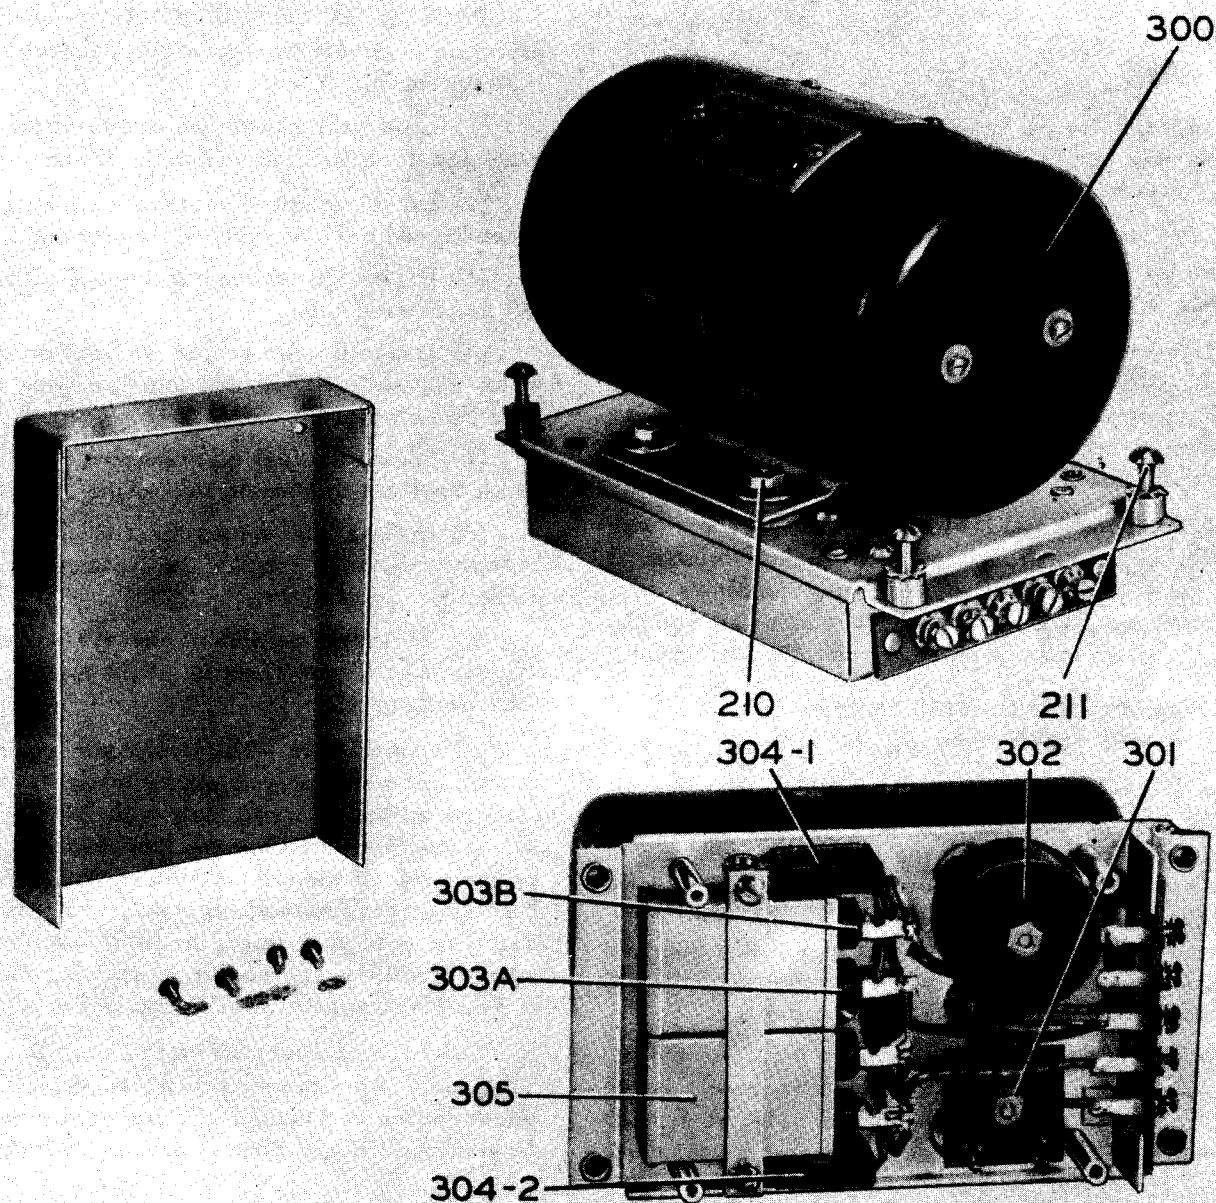

Figure 13 — Dynamotor DM-28(\*) or DM-24(\*), View Showing Filter Open
(1) Loosen the two thumb screws on the receiver panel and draw the chassis from the cabinet.
(2) Lay the chassis with top upwards on a smooth, flat surface with the rear toward the operator.
(3) Depress the retaining spring and withdraw the left thumb screw rod.
(4) Loosen the five connector screws on the dynamotor terminal strip and withdraw the spade terminals from beneath them.
(5) Loosen the four captive screws 211, figure 13, which hold the dynamotor unit to the chassis.
(6) Remove the dynamotor and filter assembly from the receiver by grasping the dynamotor and lifting vertically.
(7) The filter portion of the dynamotor unit is made accessible by the removal of the cover at the bottom. See figure 13.